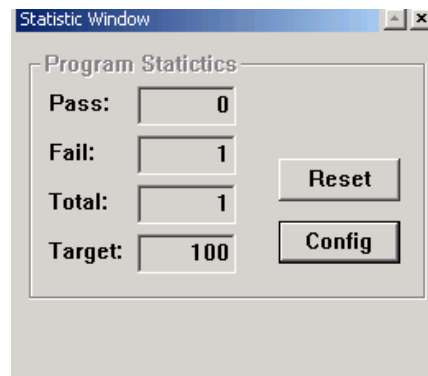
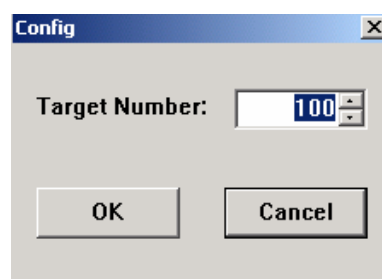

Figure 2-7 Statistic Window
Figure 2-8 Quantity of Programmed Target
- (2) Enable Statistic Window (refer to Figure 2-7) to manage the programmed quantity, shown in Figure 2-8.
- (3) Open and download the *.bin or *.tsk file to "Program Memory Window".
- (4) Click  or select [Function] → [Auto Run] for programming automatically. Click  once and perform the selected programming mode one time. Figure 2-7 shows the programming statistic information.